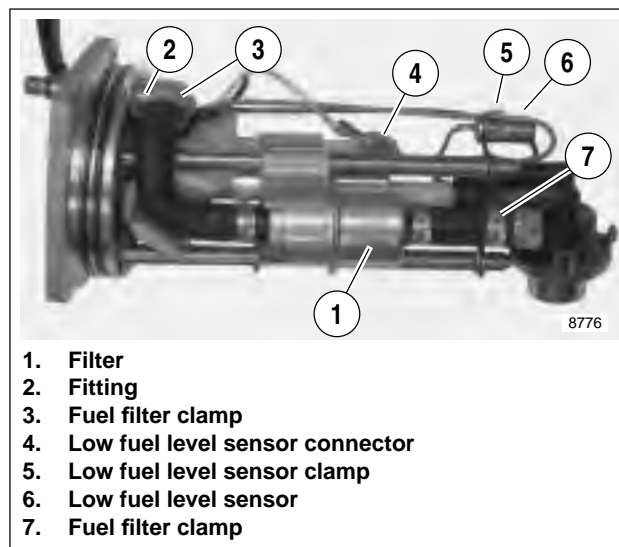

Figure 4-89. Fuel Pump Assembly (right side)
2. See Figure 4-89. Disconnect low fuel level sensor connector (4).
3. Remove clamp (5) securing low fuel level sensor (6) in place.
2. See Figure 4-89. Remove fuel pump clamps (3, 7).
6. See Figure 4-89. Remove fuel filter hose from fitting (2) and remove fuel filter (1).
7. Install **new** fuel filter (1) on fuel filter hose.
9. Install **new** fuel filter hose with 90° bend towards fitting (2).
12. See Figure 4-89. Tighten fuel filter clamps (3, 7).
2. See Figure 4-89. Remove fuel filter clamp (3). Disconnect hose from fitting (2).
9. See Figure 4-89. Attach fuel filter hose to fitting (2) with clamp (3).
14. See Figure 4-89. Attach fuel filter hose to fitting (2) with clamp (3).